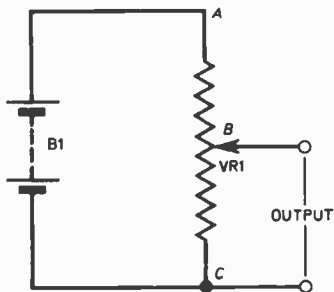

Fig. 3.3. Circuit symbol for a variable resistor. The zigzag line represents the track, the arrow head the wiper.
To avoid this, we use a variable divider, which can be adjusted to give any division you like, within reason. This is a potentiometer, and its circuit symbol, Fig. 3.3, gives a picture of how it works. The variable "tap" (B) slides up or down the resistance. In doing so it climbs from 0V at the bottom to the full battery voltage at the top, passing through every possible intermediate voltage on the way. So it can be set to divide by any number.